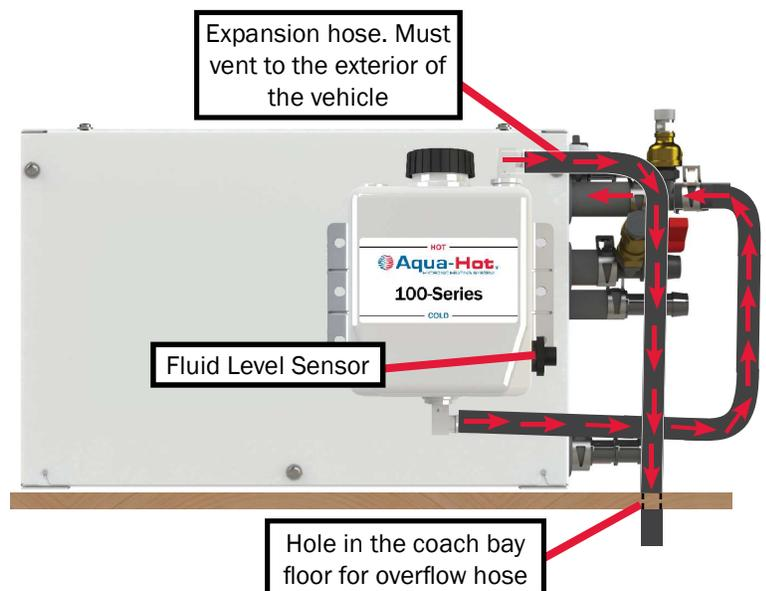

Figure 19
3. Drill a hole in the floor of the coach to allow the overflow tube to vent to the exterior of the vehicle (Figure 19).
6. Place the overflow hose so that it connects to the upper fitting of the expansion bottle, and exits through the hole drilled through the coach floor in step 3 (Figure 19). Secure this hose to the upper fitting with a constant tension hose clamp.